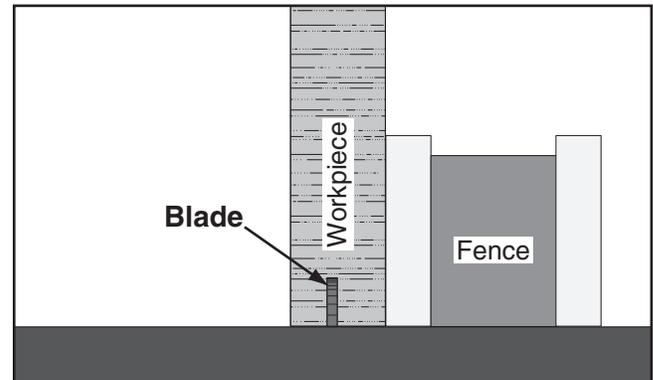

Figure 69. Rabbet cutting with a standard blade.
4. Adjust the fence so the blade is aligned with the inside of your rabbet channel as shown in **Figure 69**.